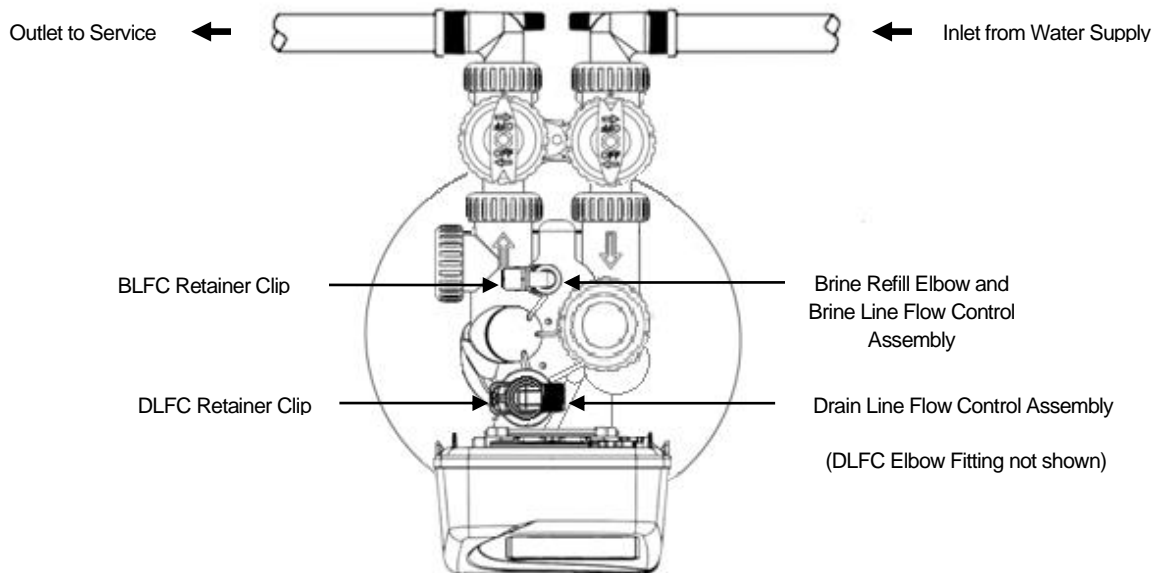

FIGURE 6: Top View of Control Valve with Bypass Installed
- STEP 5:** **Apply thread tape to DLFC Assembly.** Remove drain line flow control (DLFC) retainer clip (Figure 6) and remove the DLFC assembly from the valve body, (Figure 6). Unscrew drain line elbow (not shown) from DLFC. Apply thread tape to threads and re-attach the barbed drain line elbow. Reinsert DLFC assembly into the valve body, making certain it is **FULLY** inserted before replacing the retaining clip.
- STEP 6:** **Install softener drain line.** Use polyethylene drain line provided (**NO VINYL TUBING!**) to run drain line from control valve barbed DLFC elbow fitting (Figure 6, Page 5, not shown) to floor drain or sump pit capable of handling the backwash rate of the filter (refer to specifications and flow rate on pages 13-14) or discard the barbed fitting and use 3/4" NPT fitting to connect a rigid pipe drain line (recommended). If backwash flow rate is greater than 7 gpm, use 3/4" drain line. There must be an air gap at the end of the drain line to prevent siphoning of waste water. Length of drain line should be 15' or less. **AVOID OVERHEAD DRAINS.**
- STEP 7:** **Connect brine line between the softener and safety brine valve.** Install the 3/8" O.D. polyethylene tube from the brine refill elbow (Figure 6, Page 5) to the safety brine valve (Figure 7) inside the brine tank. **DO NOT INSERT THE BRINE REFILL LINE INTO THE BRINE TANK OVERFLOW ELBOW FITTING. Do not put salt in the tank until STEP 24.**